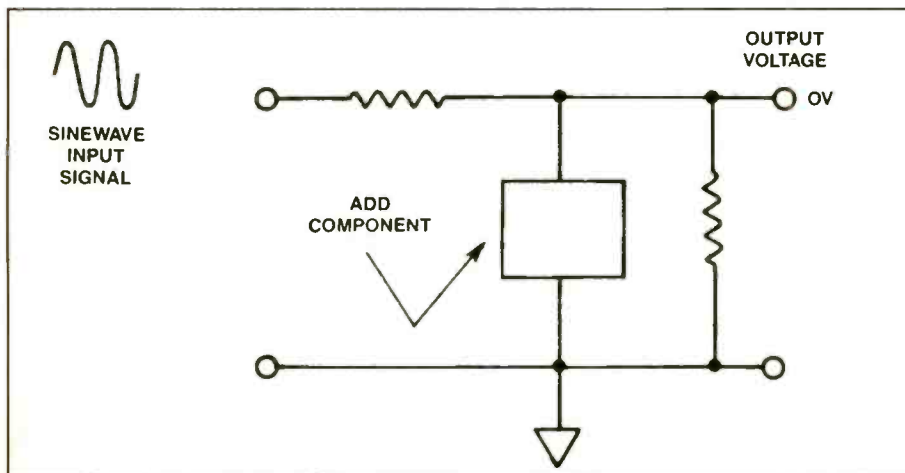

Figure 3. What component added in the location shown will give this output waveform?
9. Disregard the voltage drop across the unknown component in this question. Add a component that will give the output waveform shown in *Figure 3*.